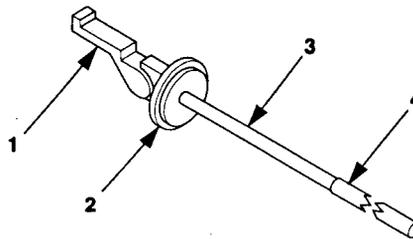

Figure 2-9. Fuel Container Adapter.
- b. Remove fuel container adapter (figure 2-9) from accessory box. The fuel container adapter consists of strainer clamp (1), adapter (2), pipe (3), and extension pipe (4).